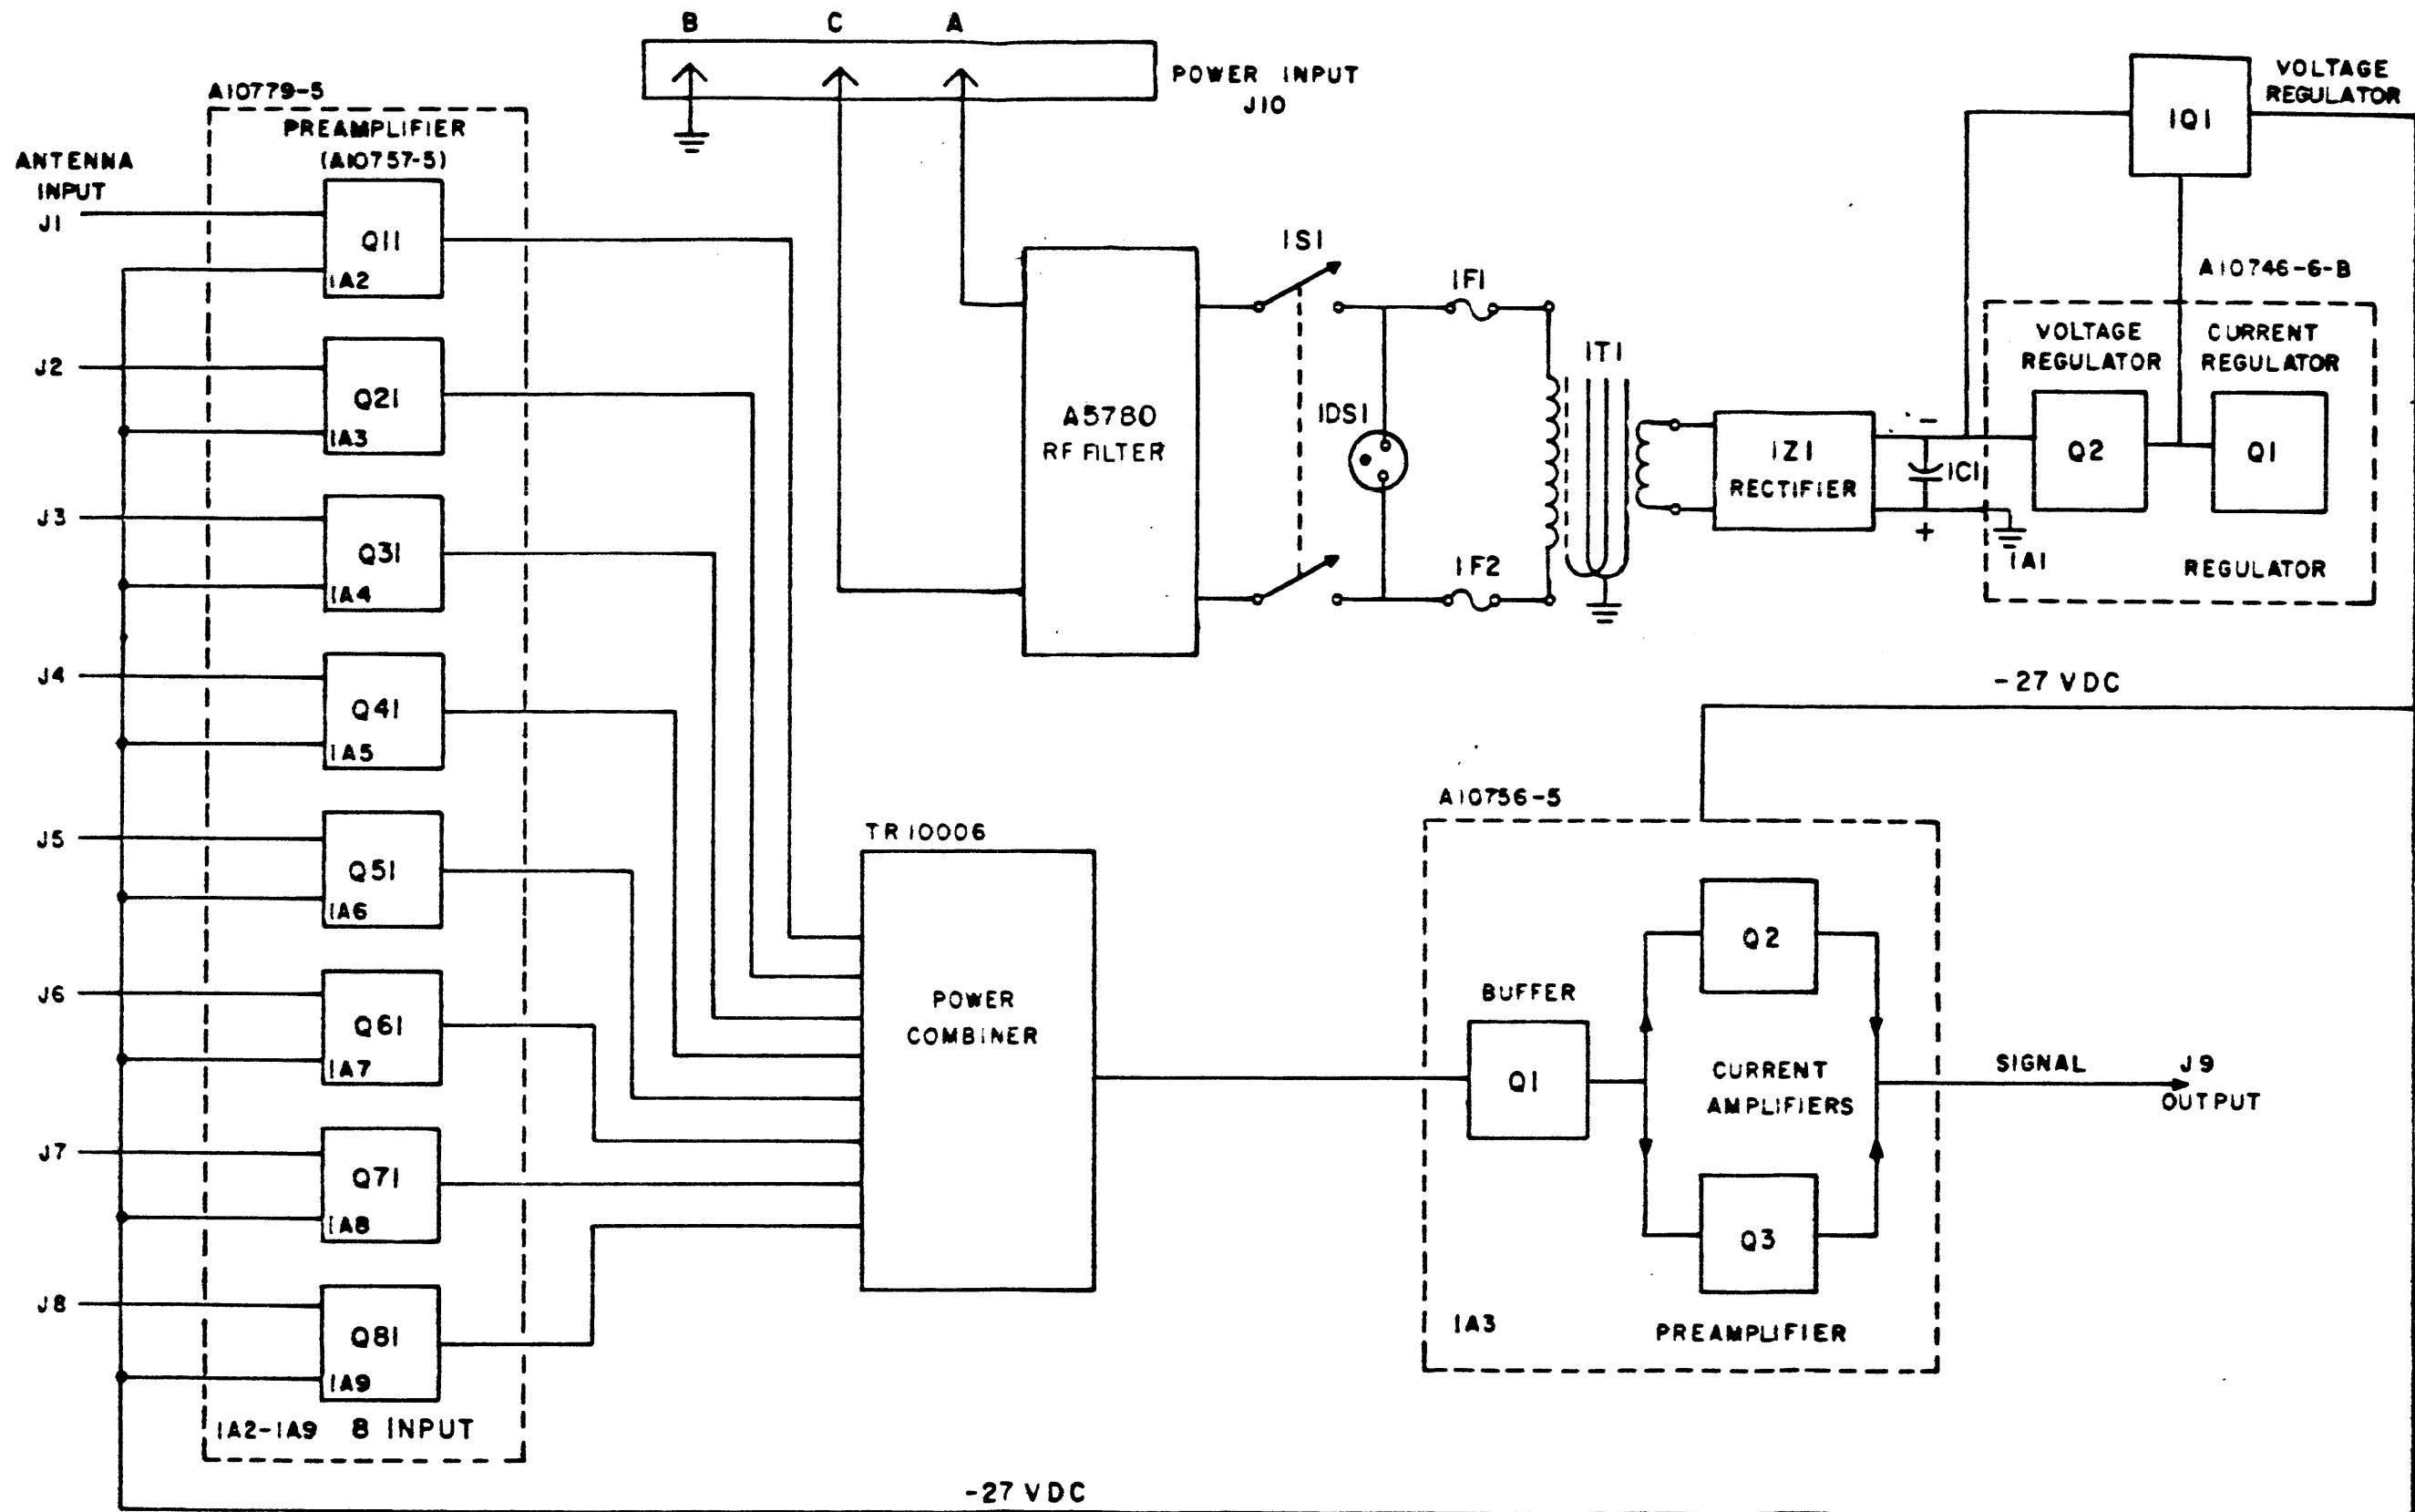

Figure 4-1 System Block Diagram, MAC-2
- (1) The Eight Input Multiantenna Coupler is a broadband antenna combining system, designed to couple from one to eight antennas to a single high-frequency communications receiver. The multi-coupler thereby permits the use of a receiver with a number of antennas for such purposes as space diversity, frequency diversity, polarization diversity of one of the several forms of steerable antennas.
- (2) Both the input and output impedance of the MAC-2 coupler are nominally 50 ohms, with a voltage standing-wave ratio characteristic better than 1.5 to 1 over the frequency range of 2 MHz to 32 MHz. 2:1 from 250KHz to 2MHz.
- (3) The MAC-2 coupler provides a nominal insertion gain of 2 decibels from each antenna input to the connected receiver. The coupler is designed to ensure a minimum of noise generation, and to provide a high degree of intermodulation rejection and isolation between input antennas. The rejection and isolation figures are stated in Paragraph 1-4 for this equipment.
- (4) The MAC-2 multicoupler consists of four major sections, as shown in Figure 4-1, System Block Diagram, MAC-2, and as described in the following paragraphs. These sections consist of the eight preamplifier printed wiring board assemblies, (A2 to A9), the output buffer amplifier assembly (A10), the power combiner (T2) and the regulated power supply.